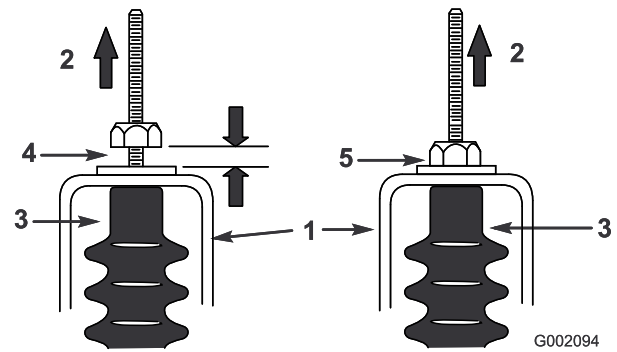

Figure 29
5. Pull up on each shift cable and ensure that there is a 0.76-1.52 mm (0.03-0.06 inch) gap between the nut/washer and the neutral bracket (Figure 29).